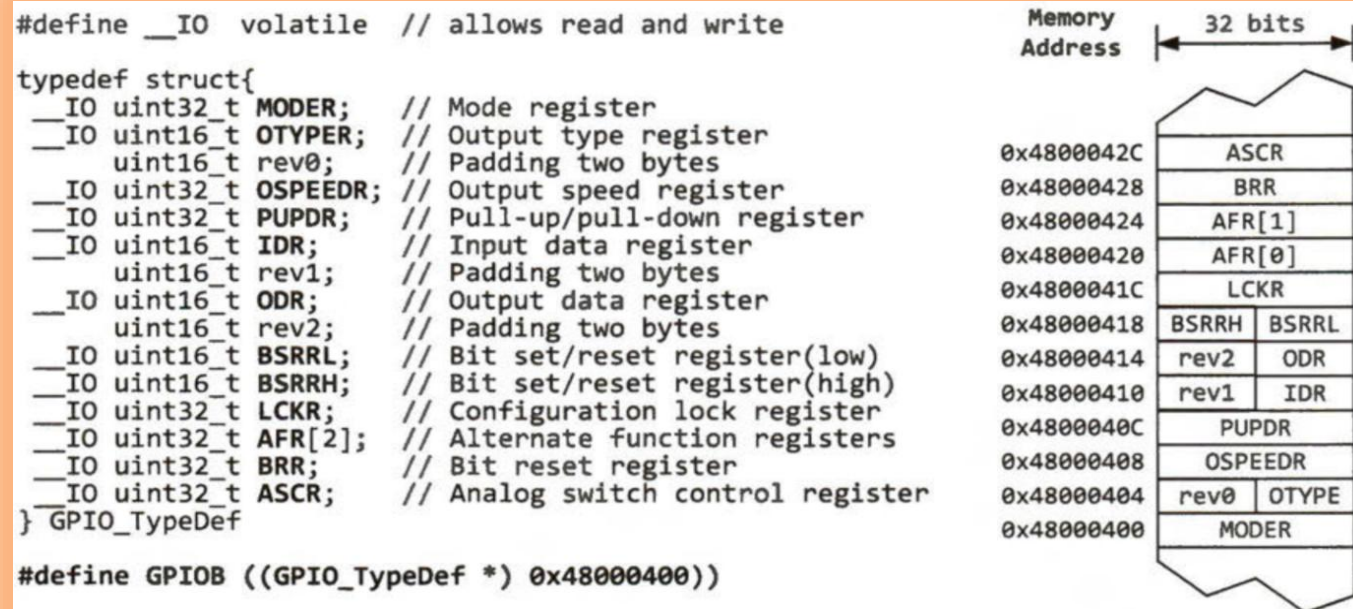

Figure 14-16. Casting the memory address of GPIO B to a GPIO structure pointer.
- A better approach is to use structures and pointers. Typically, all registers of a peripheral, such as those of GPIO port B (shown in Figure 14-16), are mapped to a contiguous block of physical memory. In C, a struct encapsulates related variables into a single structure. All variables in a struct are stored contiguously in memory.